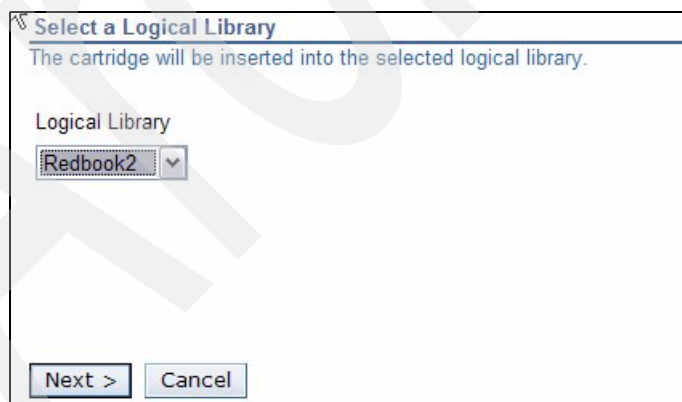

Figure 2-57 Assign cartridge to a logical library
2. Select the library to which you want to assign the cartridge(s) (see Figure 2-57). Click **Next** to complete the operation. The cartridge will then logically be moved to the new library.